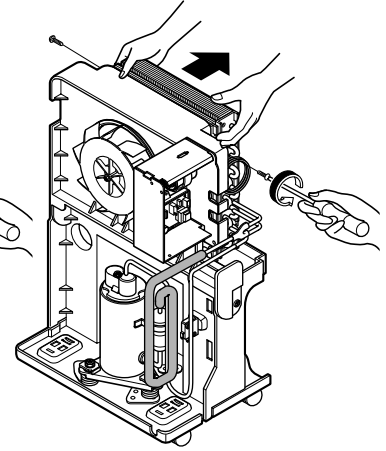

Figure 25
6. Remove the H/E assembly from the orifice. (See Figure 25)